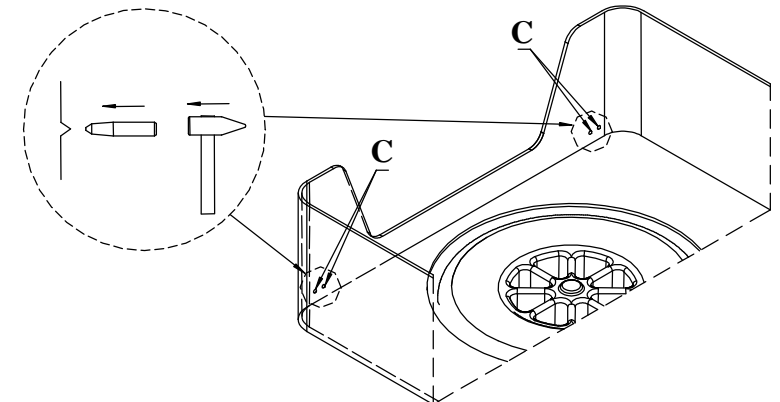

Fig. 2.
2. Place fish-plates pos. 4 and 5 on trunk's floor. Holes A and B are placed on the left and right side trunk's floor, over left and right chassis member. They are marked as dents. Find them using fish-plates 4 and 5. Then take out fish-plates and drill trunk's floor using bit $\varnothing 17\text{mm}$ in points A and B.
4. Remove fish-plates and knock out dents (see figure 2). Resultant holes enlarge using bit $\varnothing 12\text{mm}$. Drill straight through rear wall of the trunk.
5. Place fish-plates pos. 4 and 5 again together with distance sleeves (pos. 6, 7 and 8) and bolts M10x110mm (pos. 14) and M10x100mm (pos. 15) as shown on the figure. **NOTE!! Sleeves have different length!** Place plates pos. 9 from outside of rear trunk's wall and fix it using bolts M10x35mm (pos. 16)
6. Place main bar of the towbar (pos. 1) together with square washer (pos. 10) and fix it through holes A and B using five nuts M10 and washers $\varnothing 25 \times \varnothing 11 \times 3\text{mm}$ (pos.11).
7. Fix tow-ball (pos. 2) with socket plate (pos. 3) using bolts M12x75mm (pos. 12) and M12x70mm (pos. 13) from accessories.